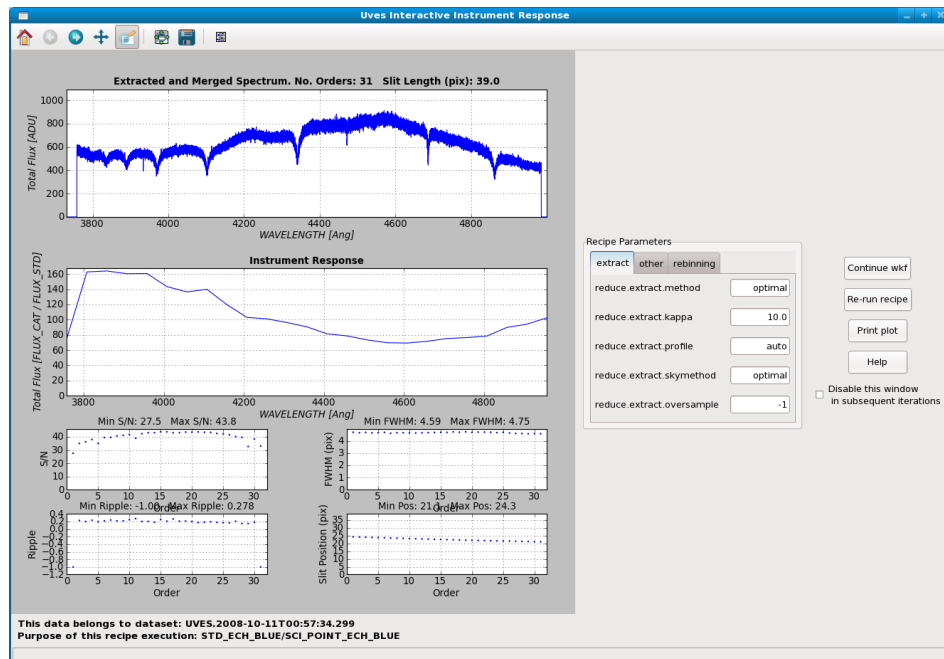

Figure 7.0.6: The interactive window for the Instrument Response actor.
- Instrument Response:** The standard DataSets supplied with Reflex 2.1 do not include standard star observations. Hence the Instrument Response actor will not be executed, and the corresponding interactive window will not appear. In Figure 7.0.6 we show what this interactive window looks like. The usage and purpose of the Instrument Response interactive window are the same as for the Spectrum Extraction interactive window which we describe in detail in the next few steps, and so no more information on this window is given here in the tutorial.